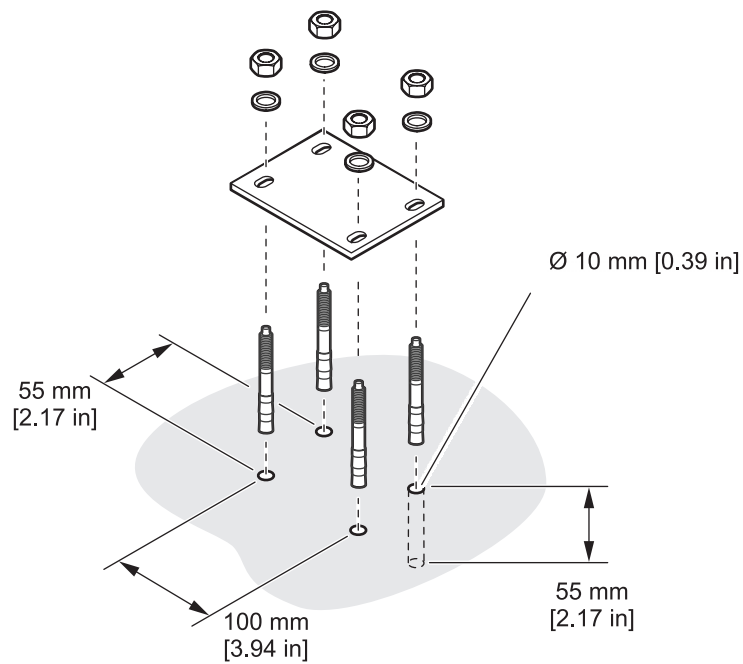

Figure 3 Installing the quick-fit anchors
2. Drill the mounting holes (Figure 3 on page 6).